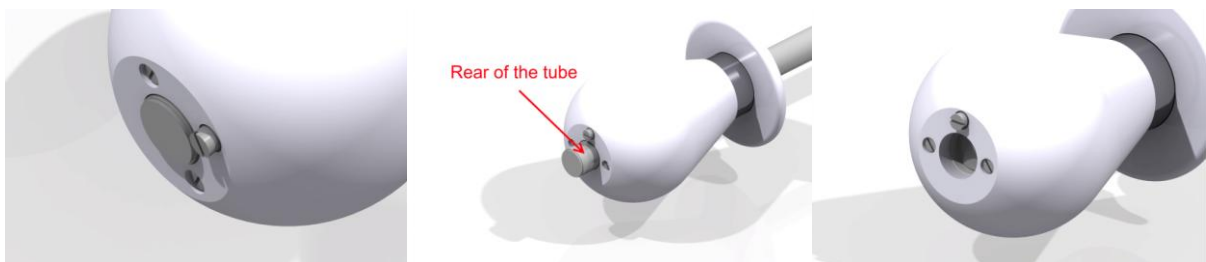

Fig 37 Left: Internal and external magnets are correct aligned. Middle, right: The magnets are displaced!
- Should the magnet assembly move too far off the back of the tube (*Fig 37, right*):